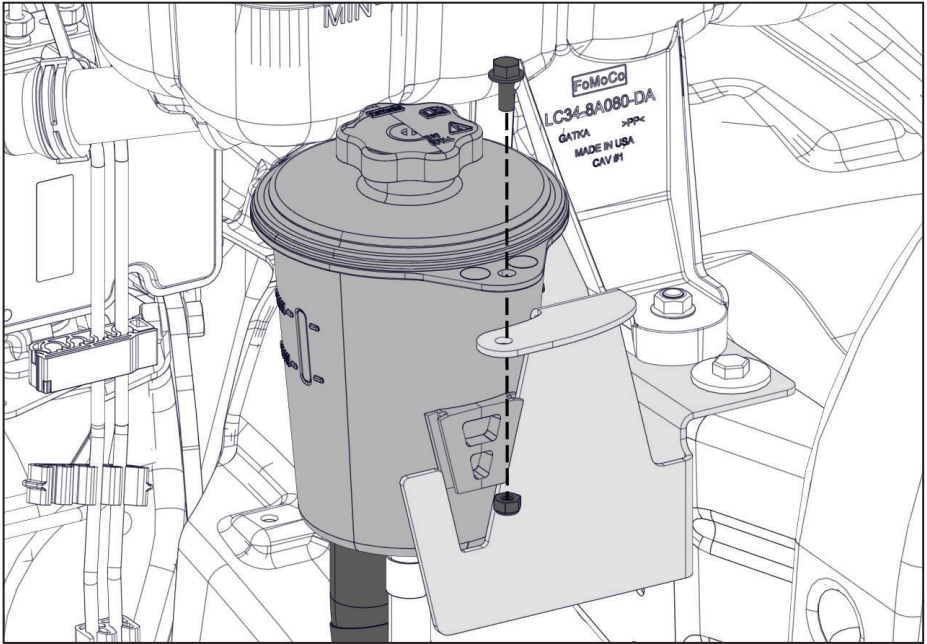

Figure 63 — Mount power steering reservoir
- ☐ Insert the power steering reservoir into the slot on the reservoir relocation bracket. Adjust the large power steering hose (that was re-clocked earlier) as necessary to prevent kinking or stress (Figure 63).
- ☐ Using the supplied fasteners, secure the power steering reservoir to the bracket (Figure 63).